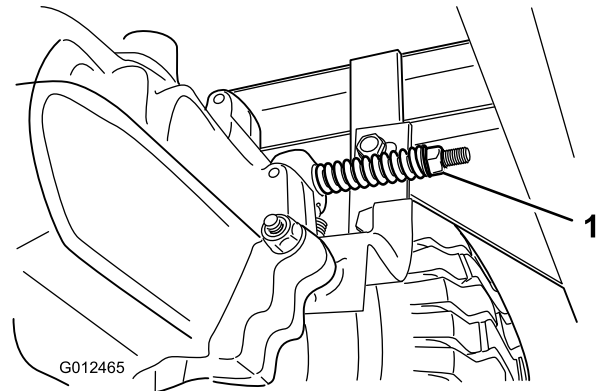

Figure 34
The brake is located on the right side of the rear axle, inside the rear tire (Figure 34).
3. Turn the brake adjusting nut clockwise until you cannot push the machine (Figure 34).